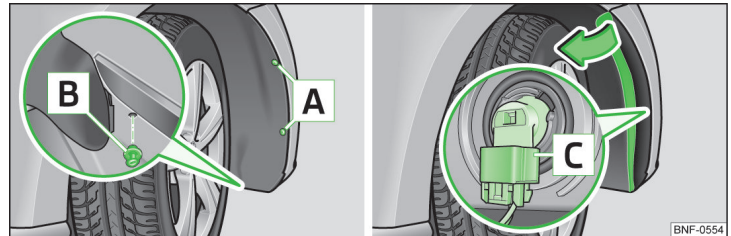

Fig. 132 Light bulb for fog lights
- Use the on board tool to remove screws **A** » Fig. 132 from the wheel well.